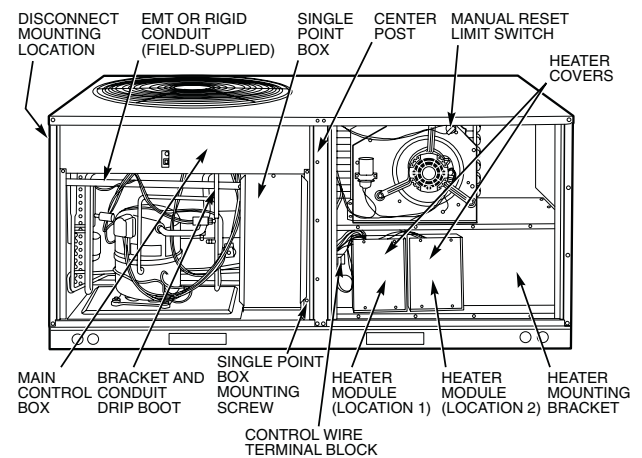

Fig. 2 — Typical Component Location
3. Remove control box cover and center post. Save screws. See Fig. 2.
6. Remove heater cover(s) from heater mounting bracket. Save screws. Install heater flange, then install single module electric heat option in location 1 (nearest the single point box). See Fig. 2 or 5.
12. Replace the center post and secure the single point box to the center post with one screw (Fig. 2).
16. Set manual reset limit switch by depressing button located between the terminals on the switch. Refer to Fig. 2 for switch location.